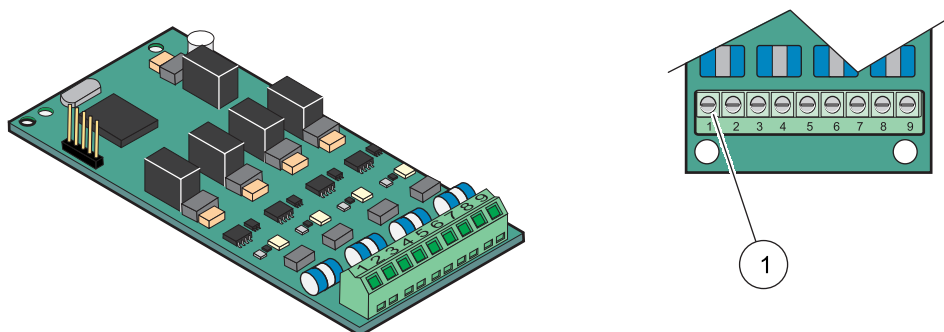

Figure 23 Output card (YAB019) cable connections
4. Feed the cable through the base of the module and properly prepare and insert each wire into the terminal according to Figure 23 and Table 6. Tug gently after each insertion to make sure that the connection is secure.